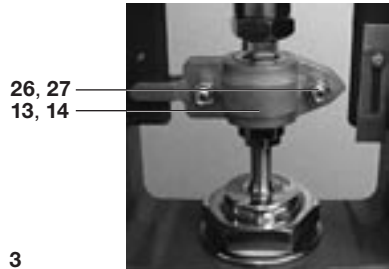

Fig. 3
- Apply just enough air pressure to open the valve fully (Figure 3).